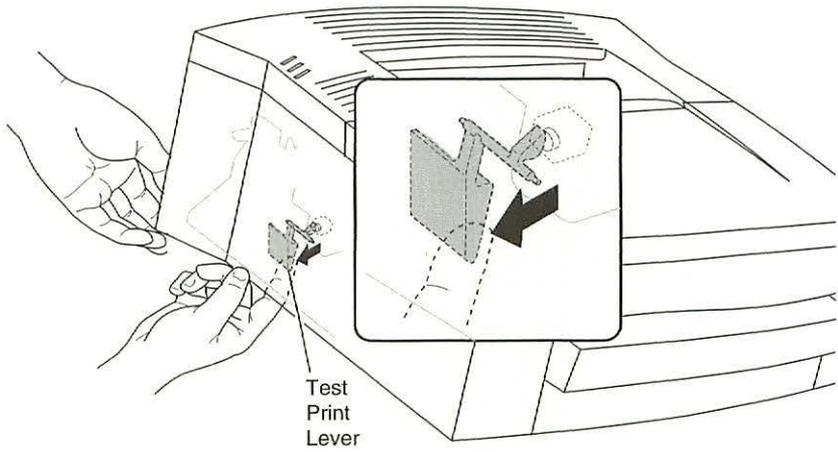

Figure 55. Printing a Service Test Page on the LaserWriter 4/600 PS
3. Raise the edge of the printer and pull the plastic test print lever located underneath the printer, as shown in Figure 55.